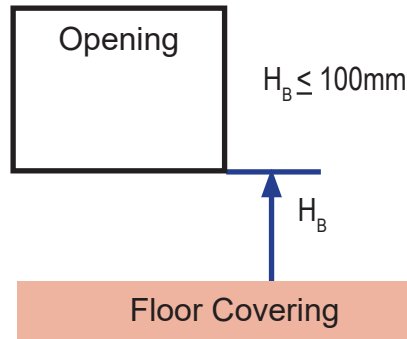

Figure 9: Opening Requirements for Mechanical Ventilation
- The lower edge of openings extracting air from the room shall not be more than 100mm above the floor (see Figure 9).